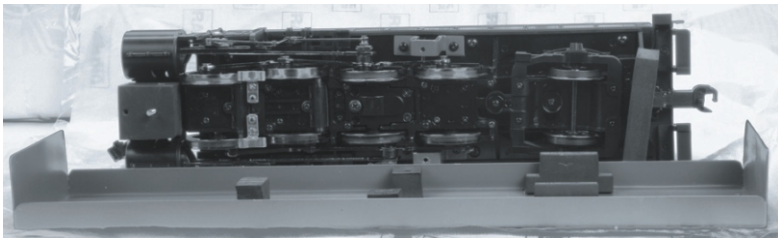

Figure 35
4. Apply the foam block over the anchor stud as shown in Fig. 35.